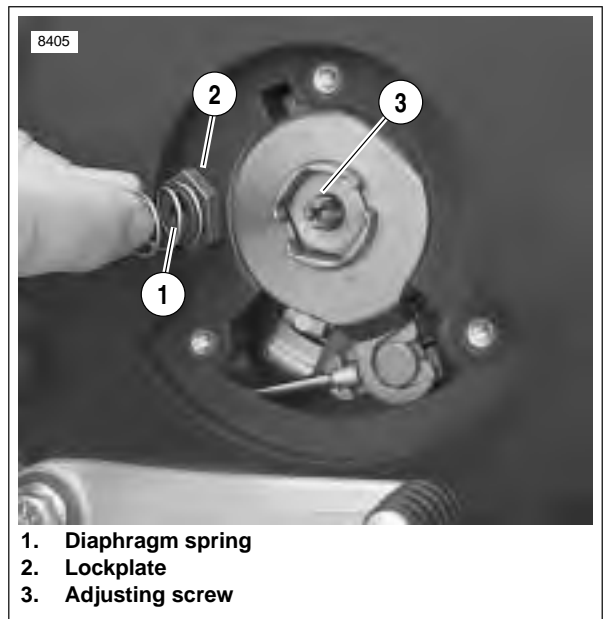

Figure 1-28. Clutch Adjustment (Typical)
4. See Figure 1-28. Remove spring (1) and lockplate (2). Using a flat tip screwdriver, turn adjusting screw (3) counterclockwise until it lightly bottoms.